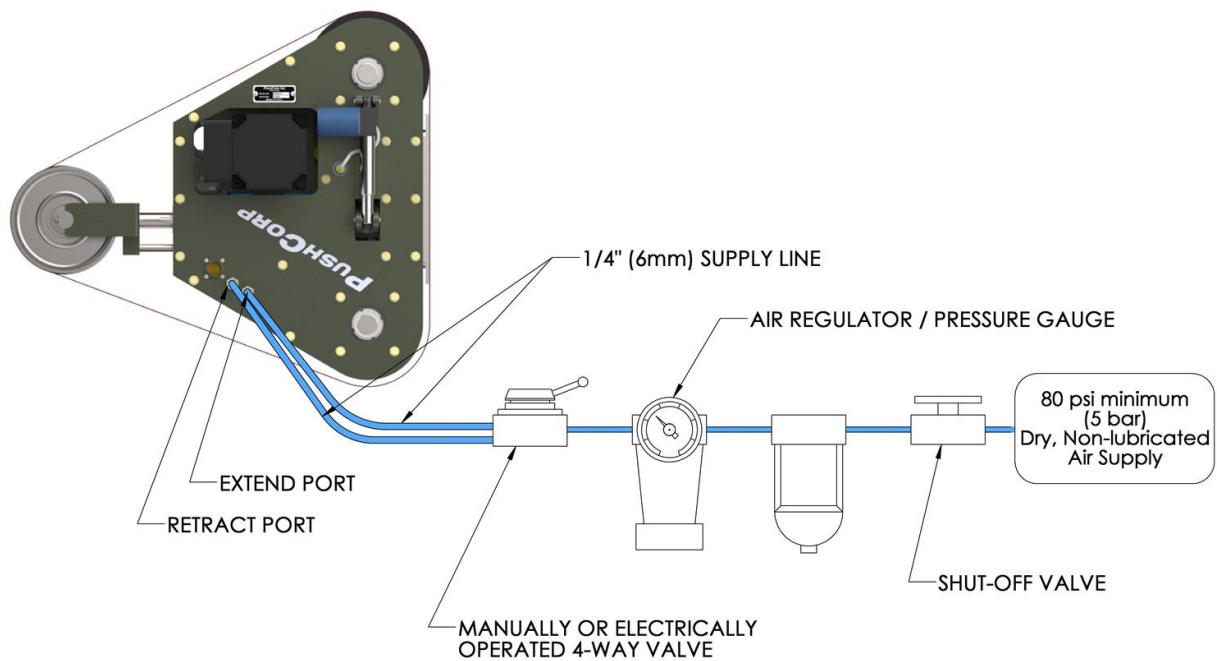

Figure 5: Pneumatic Configuration
The pneumatic supply system should be configured as shown in Figure 5.
The RBS372 has two (2) pneumatic inputs; these are the two (2) female R 1/8 (Metric) ports shown in Figure 5. These ports supply the air pressure to extend and retract the Tracking Wheel. Before connecting the supply to the air fittings, open the supply valve to blow out any contaminants which may be in the line. Charge the supply line with compressed air and verify that there are no air leaks and that there is a minimum of 80 psi (5 Bar). If a minimum air pressure of 80 PSI cannot be achieved, then an auxiliary air compressor or booster pump must be installed.